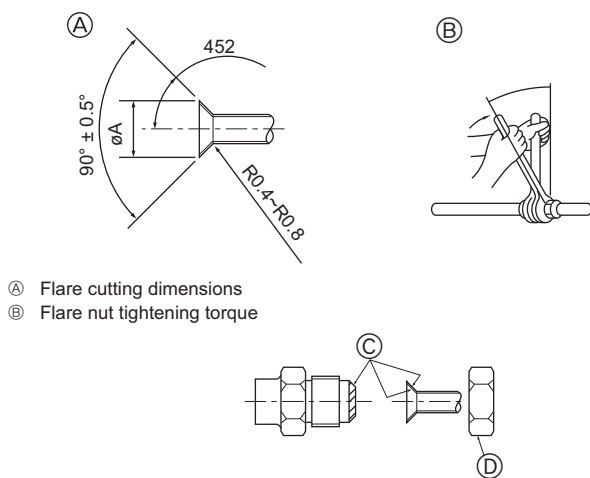

Fig. 5-6
Ⓐ (Fig. 5-6)
Ⓑ (Fig. 5-6)
5.5. Connecting pipes (Fig. 5-6)